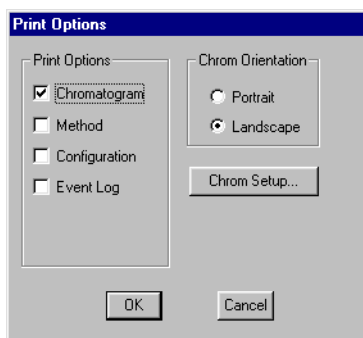

Figure 6-25 Print Options Dialog Box
2. Select **Print Settings** from the Options menu to display the Print Options dialog box (Figure 6-25).